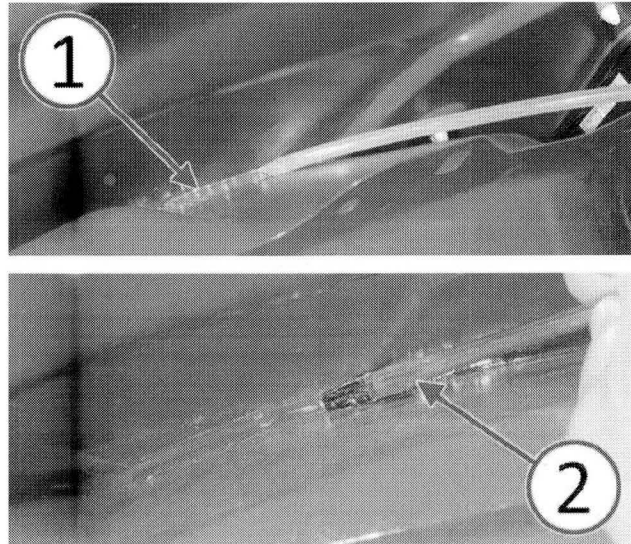

Fig. 4 Apply Sealant And Level With Tool
7. Apply seam sealant (1) to the gap between the body side aperture panel and the wheelhouse (Fig. 4).
8. Use a small brush or equivalent tool (2) to spread the seam sealant into the gap between the body side aperture panel and the wheelhouse (Fig. 4).